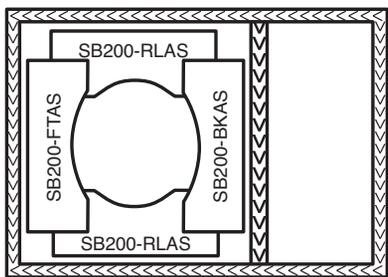

Fig. 1
- 4 - Assemble side ash slides (2 pcs part #SB200-RLAS) to inside control side mounting plates (part #'s SB200-ASMP & SB200-CSMP) using 4-1/4" x 3/4" (F) Black hex bolts and 4-1/4" (J) Zinc nuts. Assemble back ash slide (part # SB200-BKAS) to the back baffle of stoker base. Using 2-1/4 x 3/4 (F) Black hex bolts and 2- 1/4" (J) Zinc nuts. Assemble front ash slide (part #SB200-FTAS) to front panel of stoker base. Using 2- 1/4 x 3/4 (F) Black hex bolt and 2- 1/4" (J) Zinc nuts. See Fig. 1.